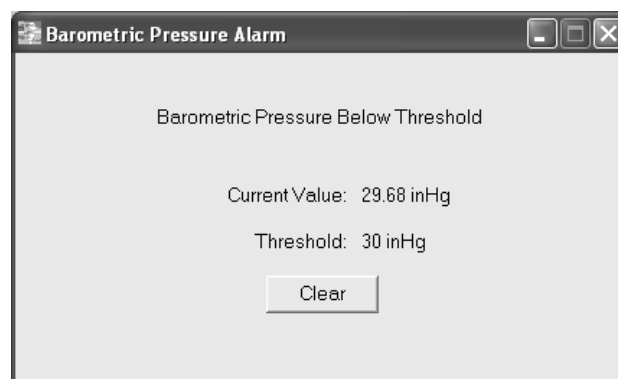

Figure 72. Alarm Notification window
- If the user does NOT click the Acknowledge button but the alarm is cleared either by disabling it on the Alarm tab of the Advanced Setup window or because the reading no longer exceeds the alarm limit, a notification window will appear (see Figure 72).